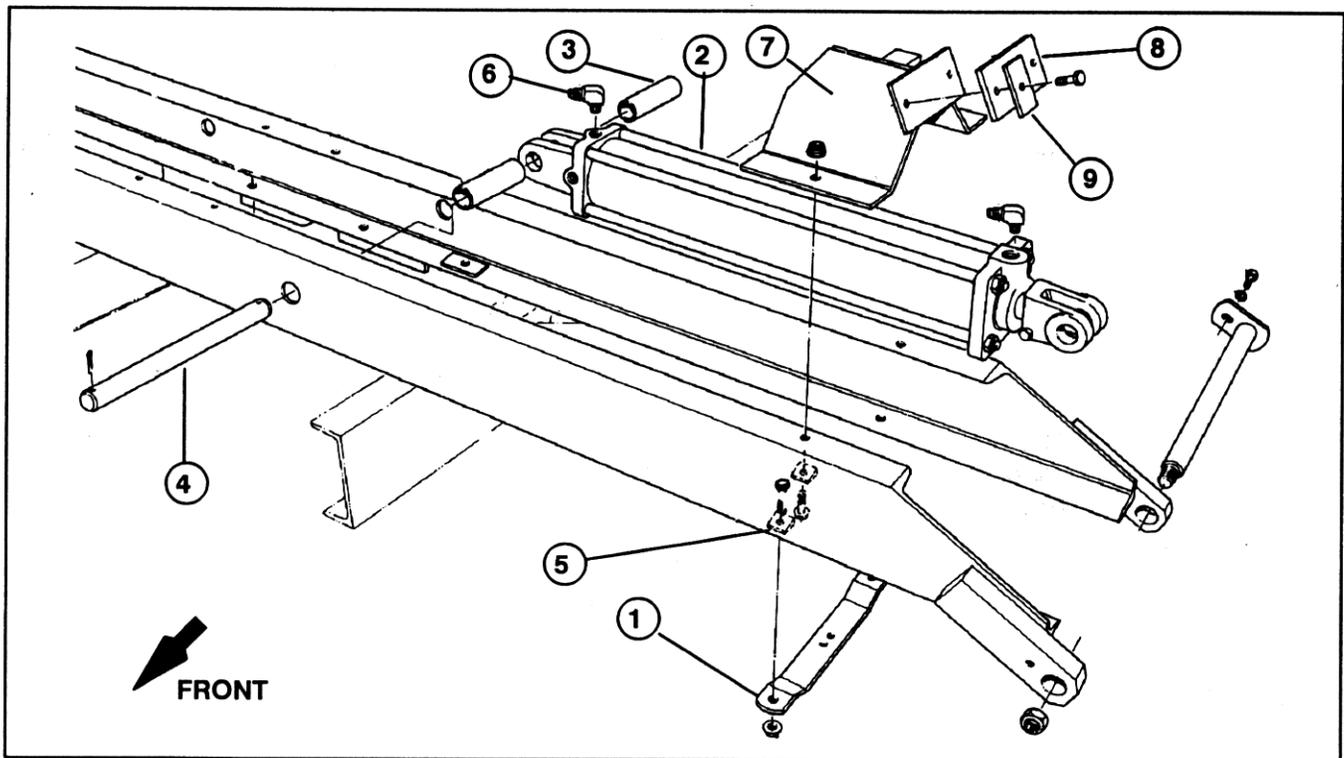

Figure 5
1. Mount a cylinder rest to underside of front cross channel with (2) 1/2-13 x 1-1/2" lg. capscrews, tapered washers and locknuts, as shown in figure 5.
2. Mount butt cap end of hydraulic cylinder to front cross channels with a cylinder shaft, (2) tube spacers and (2) 3/16 x 1-3/4" lg. cotter pins, as shown in figure 5.
3. Mount a arm stop to top of front cross channel with (2) 1/2-13 x 1-1/2" lg. capscrews, tapered washers and locknuts, as shown in figure 5.
4. Mount a bumper pad and (2) bumper washers to arm stop with (2) 3/16-18 x 1-1/4" lg. capscrews, as shown in figure 5.